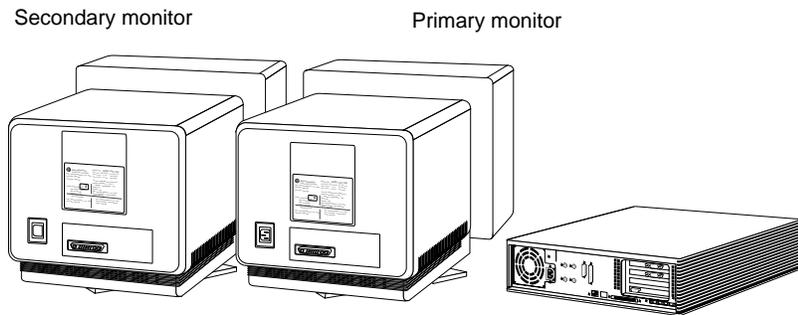

Figure 3-2 Arranging the Monitors in a Side by Side Configuration
1. Facing the front, place the primary monitor on the left and the secondary monitor on the right. The secondary monitor is the monitor that is part of the dual head shipment. See Figure 3-2.